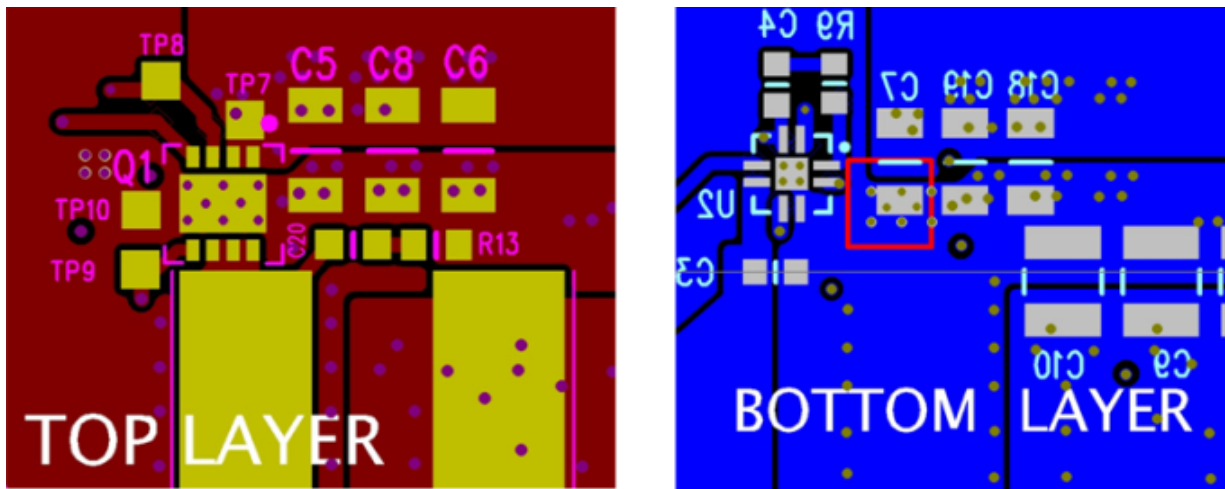

Figure 34. Recommended PCB Layout (Top Down)
- The placement of the input capacitors relative to the Power Block's VIN and PGND pins should have the highest priority during the component placement routine. It is critical to minimize these node lengths. As such, ceramic input capacitors need to be placed as close as possible to the VIN and PGND pins (see Figure 34). The example in Figure 34 uses 6 × 10 μF ceramic capacitors (TDK Part # C3216X5R1C106KT or equivalent). Notice there are ceramic capacitors on both sides of the board with an appropriate amount of vias interconnecting both layers. In terms of priority of placement next to the Power Block, C5, C7, C19, and C8 should follow in order.
- The switching node of the output inductor should be placed relatively close to the Power Block VSW pins. Minimizing the node length between these two components will reduce the PCB conduction losses and actually reduce the switching noise level. In the event the switch node waveform exhibits ringing that reaches undesirable levels, the use of a Boost Resistor or RC snubber can be an effective way to easily reduce the peak ring level. The recommended Boost Resistor value will range between 1.0 Ohms to 4.7 Ohms depending on the output characteristics of Driver IC used in conjunction with the Power Block. The RC snubber values can range from 0.5 Ohms to 2.2 Ohms for the R and 330 pF to 2200 pF for the C. Please refer to TI App Note SLUP100 for more details on how to properly tune the RC snubber values. The RC snubber should be placed as close as possible to the Vsw node and PGND (see Figure 34). ⁽¹⁾
(1) Keong W. Kam, David Pommerenke, "EMI Analysis Methods for Synchronous Buck Converter EMI Root Cause Analysis", University of Missouri – Rolla
- Use the smallest drill size allowed in your design. The example in Figure 34 uses vias with a 10 mil drill hole and a 16 mil capture pad.